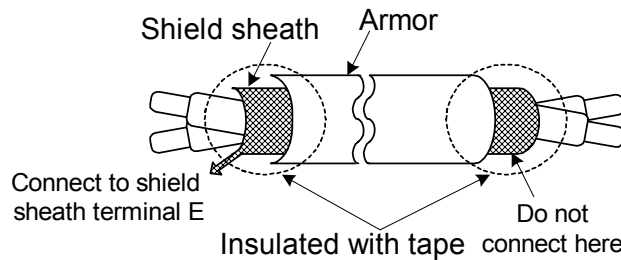

Fig. 3. Processing the ends of twisted-pair cables
- (1) Separate the control circuit wiring from main circuit wiring (R/L1, S/L2, T/L3, U/T1, V/T2, W/T3) and other high-power lines to avoid noise interruption.
- (2) Separate the wiring for control circuit terminals RA-RB-RC (R1A-R2B-R2C) (contact output) from wiring for terminals ①~⑧, A01, A02, GND, DO1, DO2, DOG 15V(or +12V, -12V), VIN, AIN, AUX, GND, IP12, IG12, A (+), A (-), S(+) and S(-).
- (3) Use the twisted-pair or shielded twisted-pair cables for control circuits to prevent operating faults. Process the cable ends as shown in Fig. 3. The max. wiring distance should not exceed 50 meter.